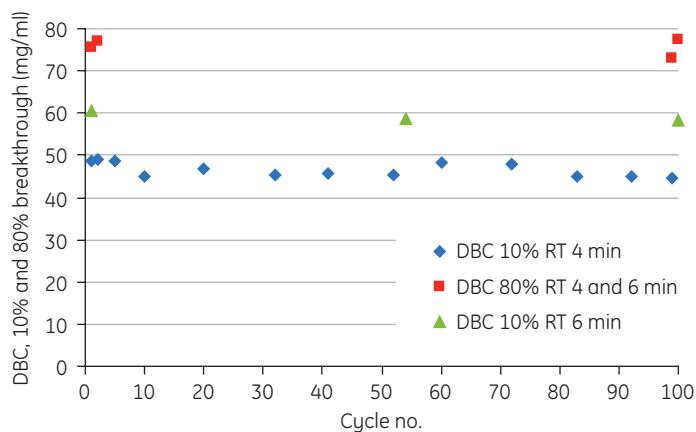

Fig 8. Dynamic binding capacity measurements for MabSelect SuRe LX over 100 purification cycles with 0.1 M NaOH as CIP agent. RT = residence time.
The increased alkaline stability allows very effective CIP with 0.1 to 0.5 M NaOH over many purification cycles (Figs 8 and 9). In addition, the ligand shows improved stability to proteases compared with rProtein A. This attribute also extends working lifetime and minimizes ligand leakage. Furthermore, as the engineered protein A ligand of MabSelect SuRe LX does not exhibit affinity for the Fab region of antibodies, more generic elution conditions can be employed compared with rProtein A. Antibodies can thus be eluted at a more homogeneous pH range (1). See Figure 7 for more details.
A lifetime study with MAb-containing feedstock has shown that the DBC and yield of MabSelect SuRe LX are stable over 100 purification cycles with 0.1 M NaOH, and that the levels of leached protein A and host cell proteins remain constant. Figure 8 shows DBC data and Figure 9 overlay chromatograms from this study.